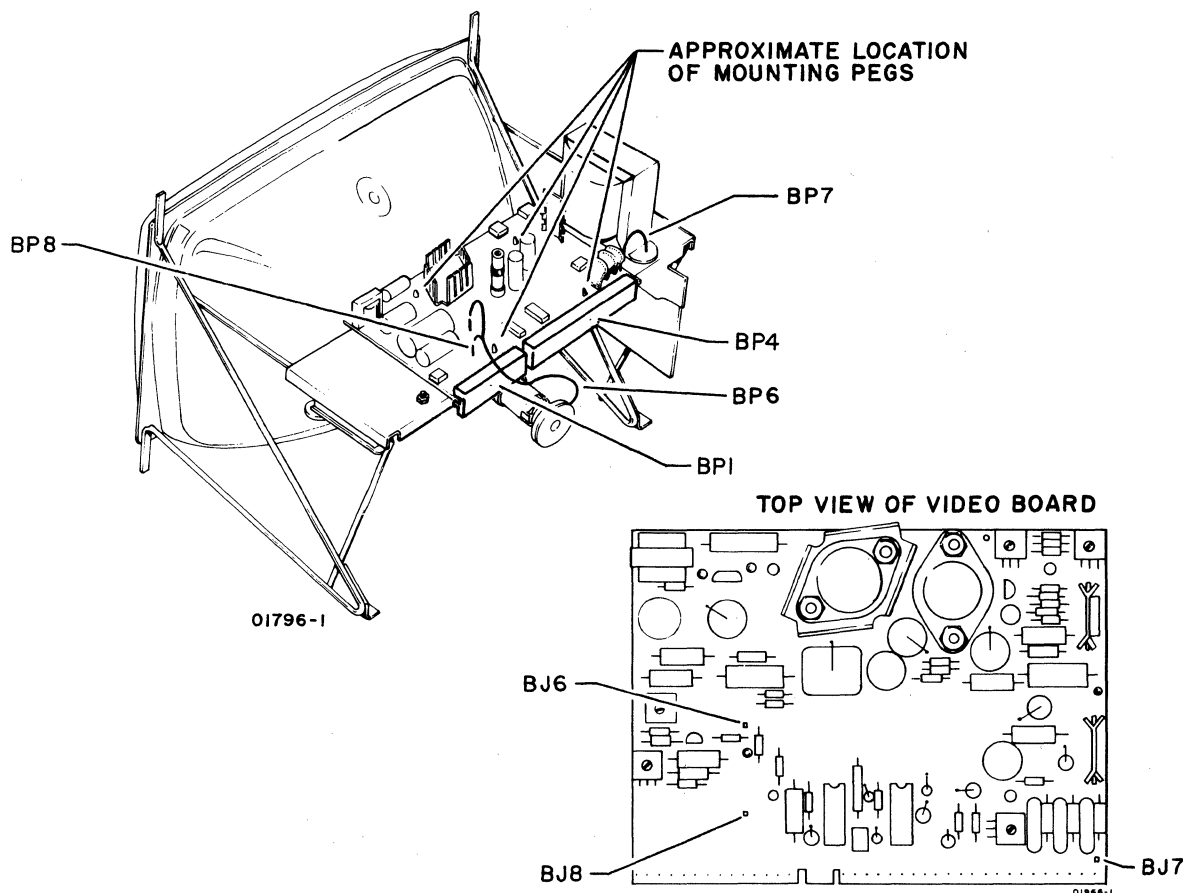

Figure CRT11. Video Module Printed-Circuit Board Connections
- 2) Disconnect connector BP1 (see figure CRT11).
- 6) To remove PC board from the four plastic mounting pegs attached to video module, (figures CRT11 and CRT12) very carefully compress the mounting peg retainer clip (see insert in figure CRT12) while at the same time gently lifting that portion of PC board until the board is free from the retainer clip; then stop lifting. Do the same procedure to the remaining pegs. When free of all four retainer clips pull PC board all the way up and off the mounting pegs.